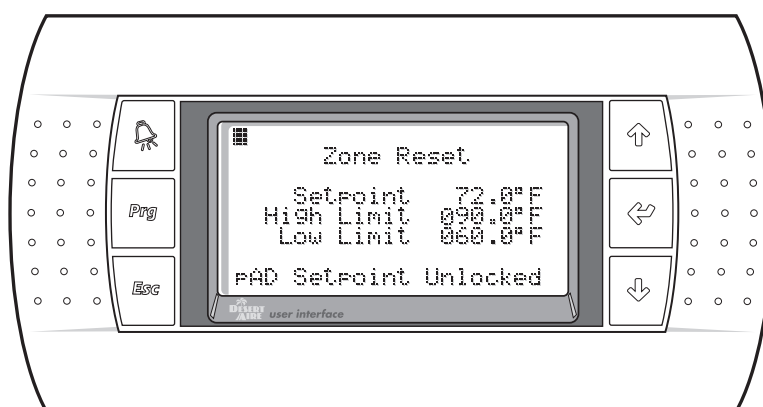

Figure 28
2.4.4. Zone Reset Setpoints (Figure 28)